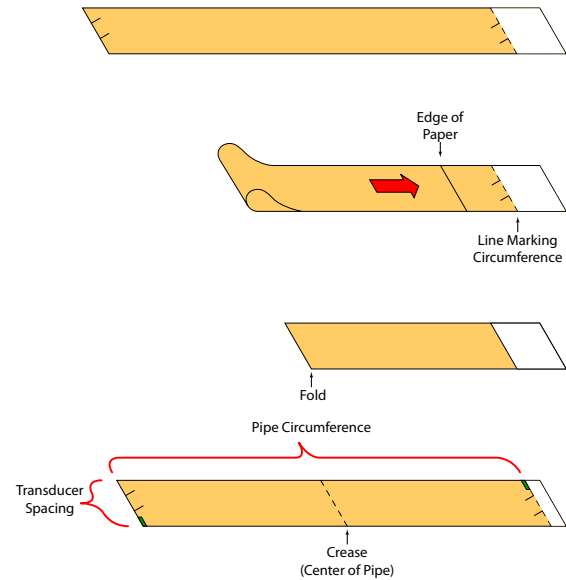

Figure 23: Bisecting the pipe circumference
2. Mark the intersection of the two ends of the paper to indicate the circumference. Remove the template and spread it out on a flat surface. Fold the template in half, bisecting the circumference. See *Figure 23*.